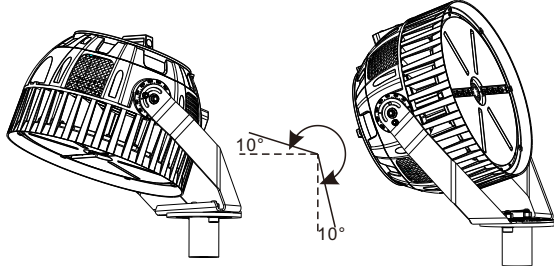

Figure 13
4. According to the need, carry out the projection angle adjustment, angle adjustment range (Figure 13);